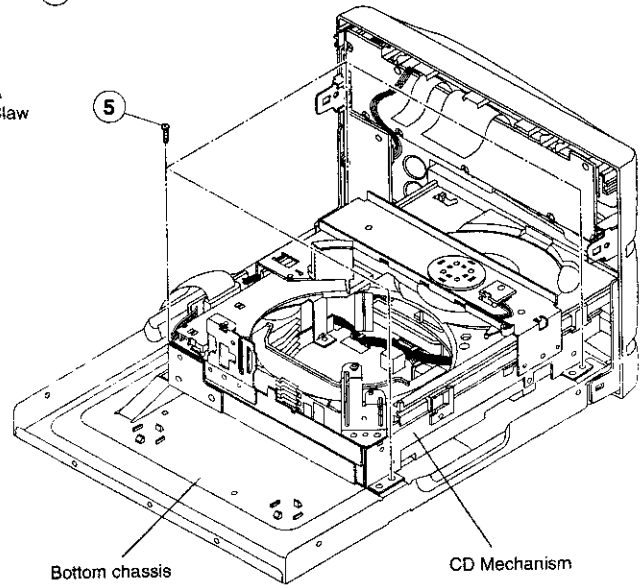

Fig. 18
(1) Remove 2 screws ⑦ from (side of) front panel. Then remove the brackets from the front panel by releasing the claws that hold the brackets to the front panel together.
5. **Removal of CD Mechanism (Fig. 18)**